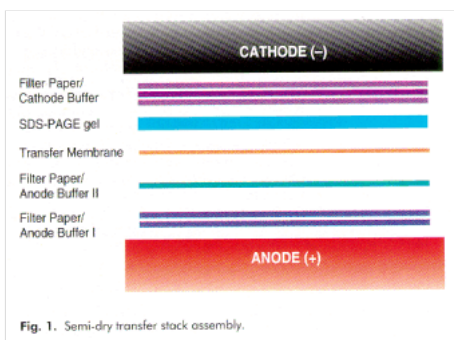

Fig. 1. Semi-dry transfer stack assembly.
Transfer of protein: (See Figure 1)
2. Assembly of transfer unit: (See Figure 1)